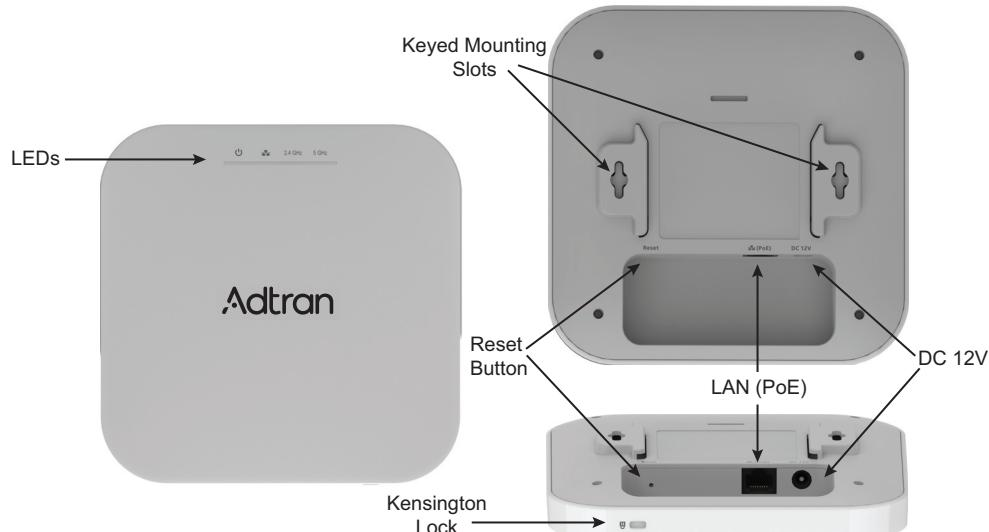

Figure 1. BSAP 6020
*To use PoE network devices for powering the BSAP 6040, connect the PoE-based network device to the **LAN (PoE)** port (labeled on the back of the unit, as shown in Figure 1 on page 1).*